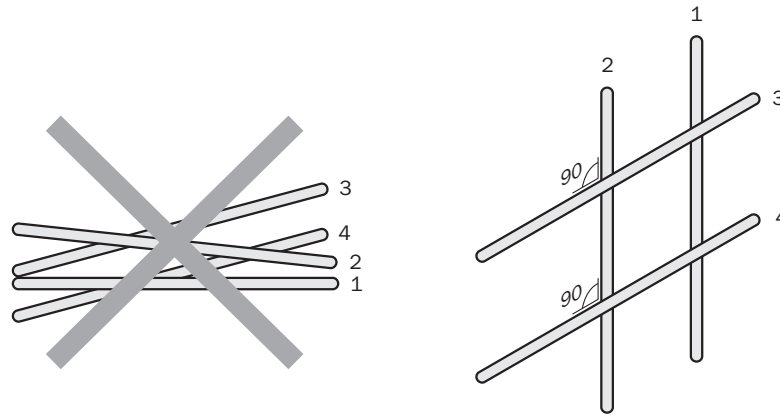

Figure 2: Cross cables at right angles
- ▷ Cables in groups 1, 2 and 3, 4 must be crossed at right angles see figure 2, page 26